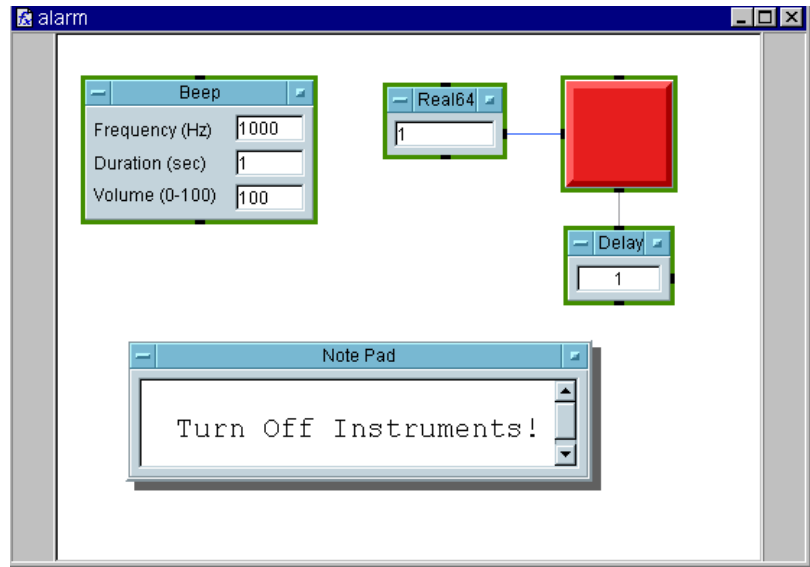

Figure 8-23. The UserFunction alarm (Detail View)
7. Go to the Main window. Click `Device ⇒ Call`, choose `Select Function` from the `Call` object menu, and select `alarm`. Run the program to test it. The detail view of the `UserFunction alarm` should look like Figure 8-23.